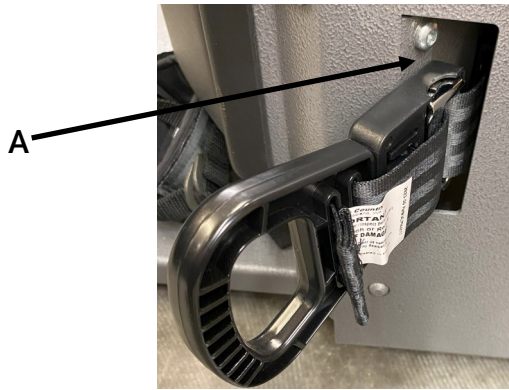

Figure 7
- A. From inside chair, feed leg restraint belt and handle (RC1225) through the opening on side of chair (Fig. 7).